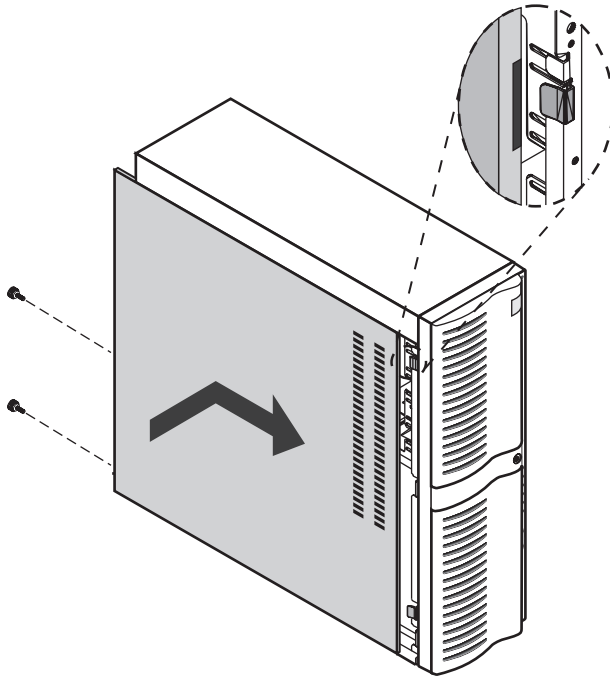

Figure 6: Reinstalling the Side Panel
1. Align the panel with the chassis ledges just a few inches towards the back of the chassis. (See Figure 6.)